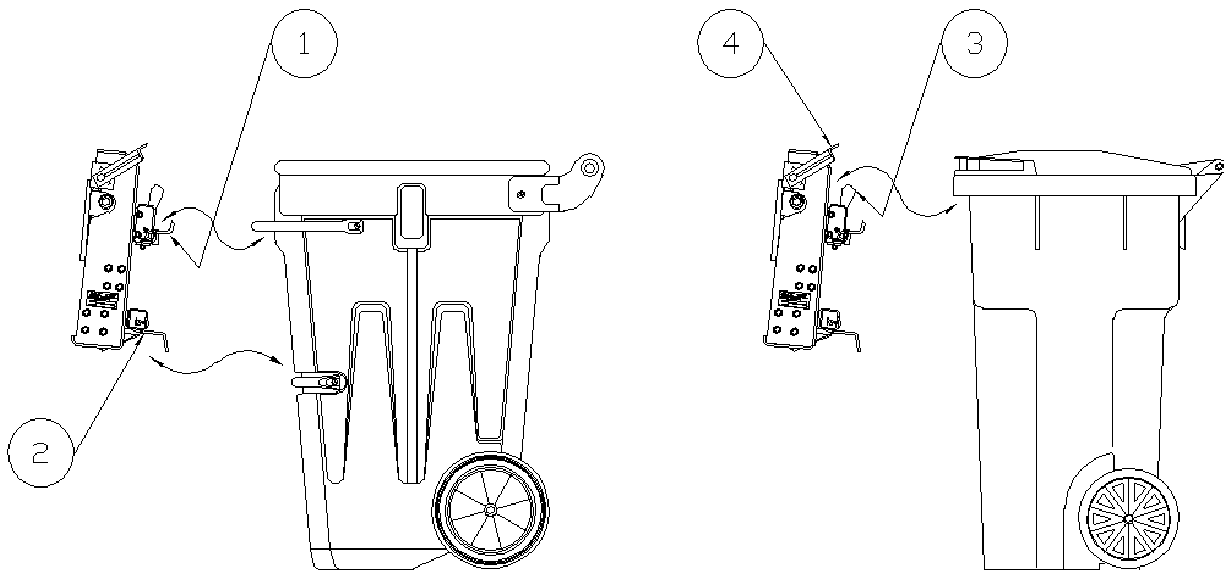

figure O-1
The Bayne *THINLINE*[®] Premium Lift System is designed to be a combination lift unit. When lifting bar type carts with the standard 15" spread (*figure O-1*), the top bar of the cart is placed onto the upper saddle (1) and is locked on by the slider latch (2). When lifting European style carts, the upper saddle and slider latch hook are hinged to pivot out of the way, so that the upper lip of the cart can be placed onto the fingers of the saddle box (3). The cart is locked on with the use of a rotating clamp bar assembly (4).